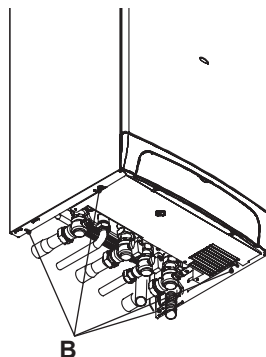

Fig. 9.2
- Loosen the screws B. Bring the bottom of the panels away from the boiler and lift them, freeing them from the top hooks (Fig. 9.2).